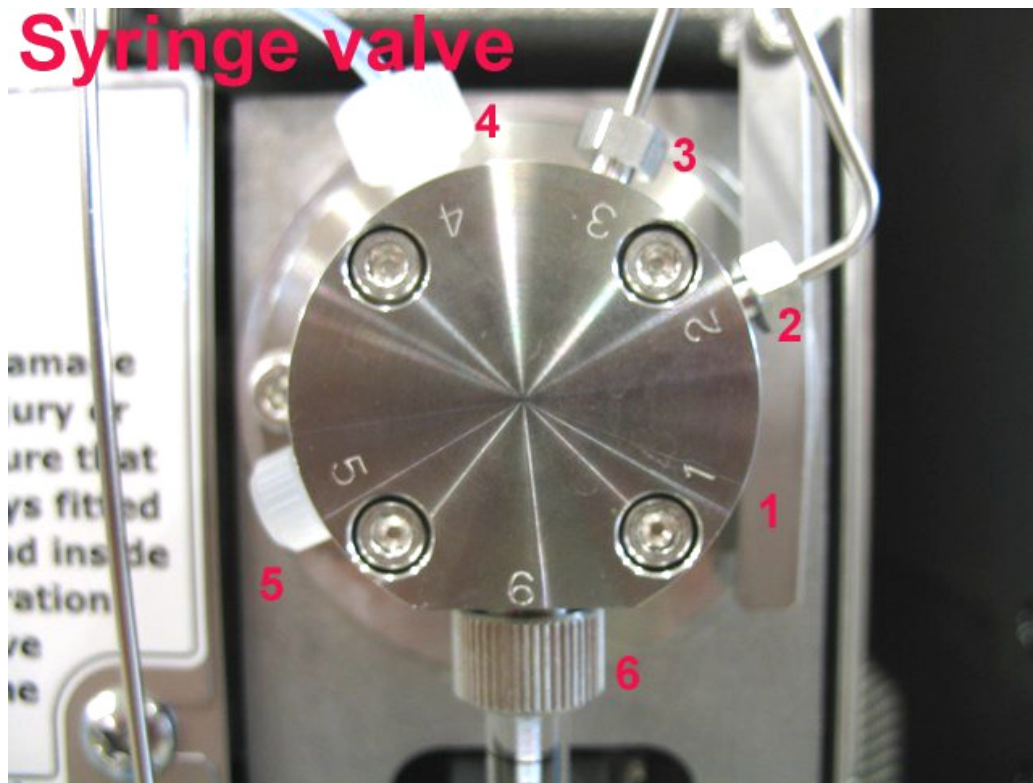

Figure 6: Fitting Positions on the Syringe Valve
8. Loosen the fitting from position **3** on the syringe valve (*Fig. 6*). Once loose, remove the stainless steel plumbing from the assembly.